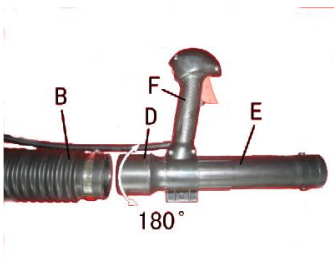

Fig.3
2. Put the hose clamp(G) on the flex tube and the operating tube together.
3. Turn the rotary ring mark(D) so it aligns with the throttle handle(F). Insert the operating tube(E) into the flex tube(B)(Fig.3) and then tighten securely with a hose clamp(G)(Fig.4).